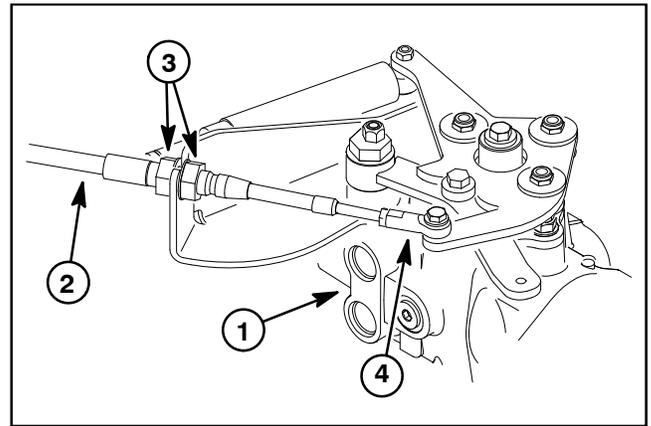

Figure 43
2. Disconnect the traction control cable ball joint and jam nuts from the neutral arm (Fig. 43). Position traction cable away from the pump assembly.
10. Connect the traction control cable to the neutral arm (Fig. 43):